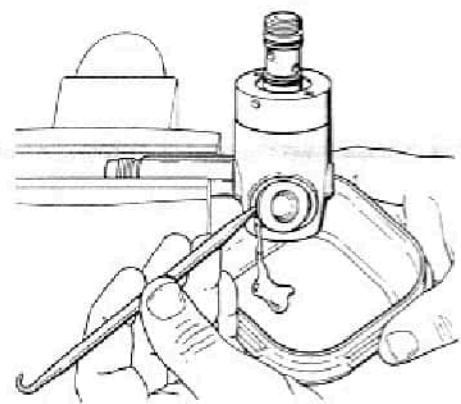

Fig. 6 - Secondary Diaphragm Removal
21. Apply a 8mm hex key to the secondary diaphragm retainer(26) and turn counter-clockwise to loosen.
22. While holding a container below the first stage to receive the silicone fluid, loosen the diaphragm retainer further to remove, and extract the secondary diaphragm(24) with a brass O-ring tool (see Fig. 6). Discard the diaphragm and do not reuse.
25. Lift the main valve spring(16) out of the body and examine closely with a magnifier to check for any signs of pitting, rusting, or other corrosion which permeates the surface of the metal. (This would indicate that sea water has entered the ambient chamber.) If permanent corrosion is found, discard and do not attempt to reuse.